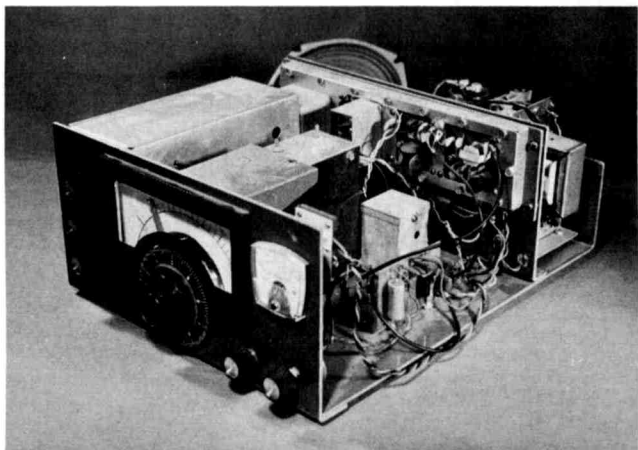

fig. 2. Packaged single-sideband receiver using the components shown in fig. 1.
fig. 2. Circuit in (A) shows how op amp input circuit can be changed for positive-only keying voltage such as the ST-3 or ST-4. Printed-circuit connections to pins 4 and 5 of the 741 are designed so they can be jumpered for the desired input configuration. Circuit in (B) shows how RTTY memory can be connected to ST-6 terminal unit, or a circuit built for local loop operation. The input to the memory does not load the ST-6 and affect the normal FSK connection at the same point.
An example of this is shown in **fig. 2**. This ssb receiver was originally built as in **fig. 1**. Instead of buying an expensive enclosure, it was housed, as shown, in bent-up aluminum scrap with a steel wraparound. When I find a reliable and stable circuit and layout, I usually etch a number of boards "for stock." This results in terrific time savings later. For example, I wanted to experiment with a variation of the KY crystal filter which is popular in Europe but had no receiver to match the available crystals. With all but one board in stock it took only two evenings to build the receiver shown in **fig. 1**.
The receiver in **fig. 2** uses two of these stages. The first is swamped with the filter terminating resistor, the second stage with 2200 ohms — the two stages become very docile. As an rf amplifier the circuit will require careful shielding of input and output circuits. By reducing the value of C5 and adding a "gimmick" capacitor or small adjustable capacitance between the junction of C5, R4 and L2 to gate 1 you can include neutralization with the same layout. Agc or mvc can be included as shown. Limit this voltage to ± 4 volts on gate 2. Maximum gain requires about +4 volts from gate 2 to the source.